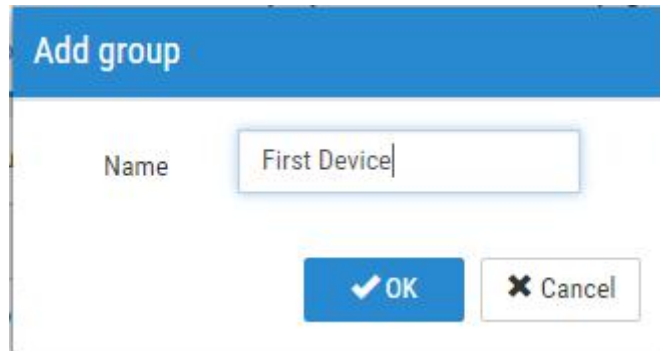

Fig. 4.6-4 The "Add group" dialog
(3) If you click the " " button in the "Operation" column, the current group will be deleted.
(4) After you click the "Add Group" button, the "Add group" dialog will pop up. You can add a new group in this dialog, as shown in Fig. 4.6-4.